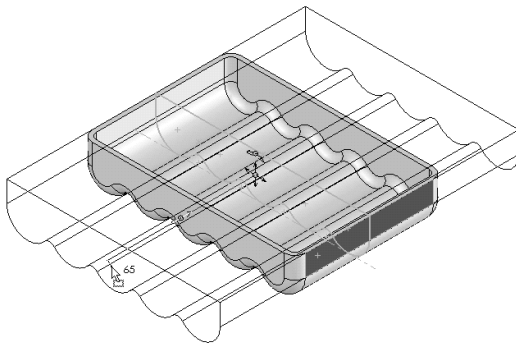
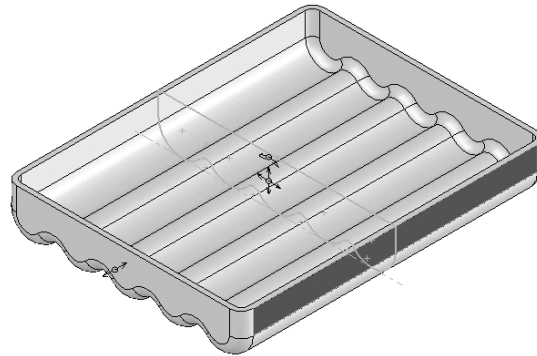

Figure 9-48 Dragging the **Resize** handle
Figure 9-49 Resulting edited feature
4. Release the left mouse button after dragging the feature to some distance. Figure 9-48 shows the preview of the dragged feature and Figure 9-49 shows the edited feature.